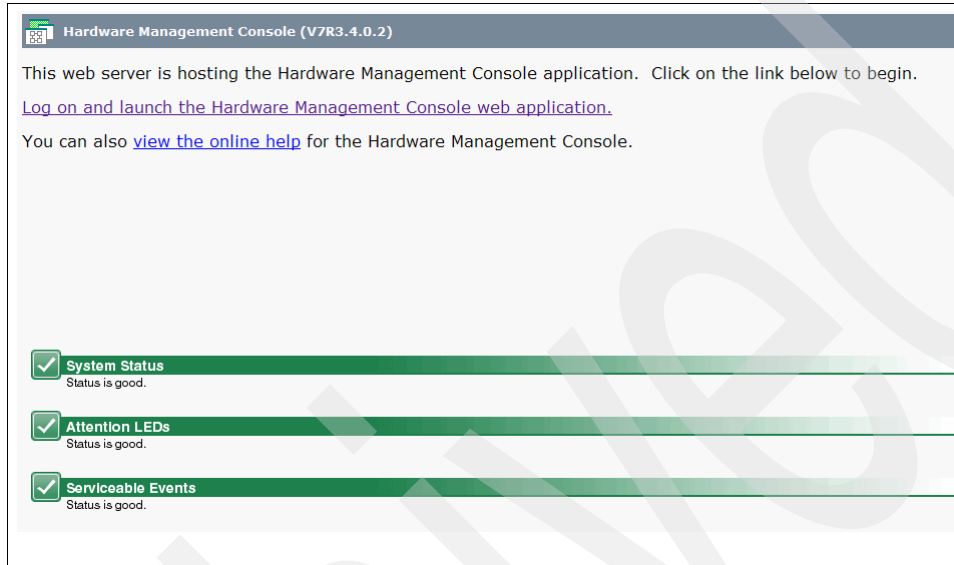

Figure 9-5 HMC WebUI launch page
1. Open your browser and connect to the HMC using the URL `https://<HMC ipaddress>/preloginmonitor/index.jsp`. The browser might need your approval regarding the HMC security certificate upon first connection; each browser is different in how it handles security exceptions. The Hardware Management Console login window displays, as shown in Figure 9-5.